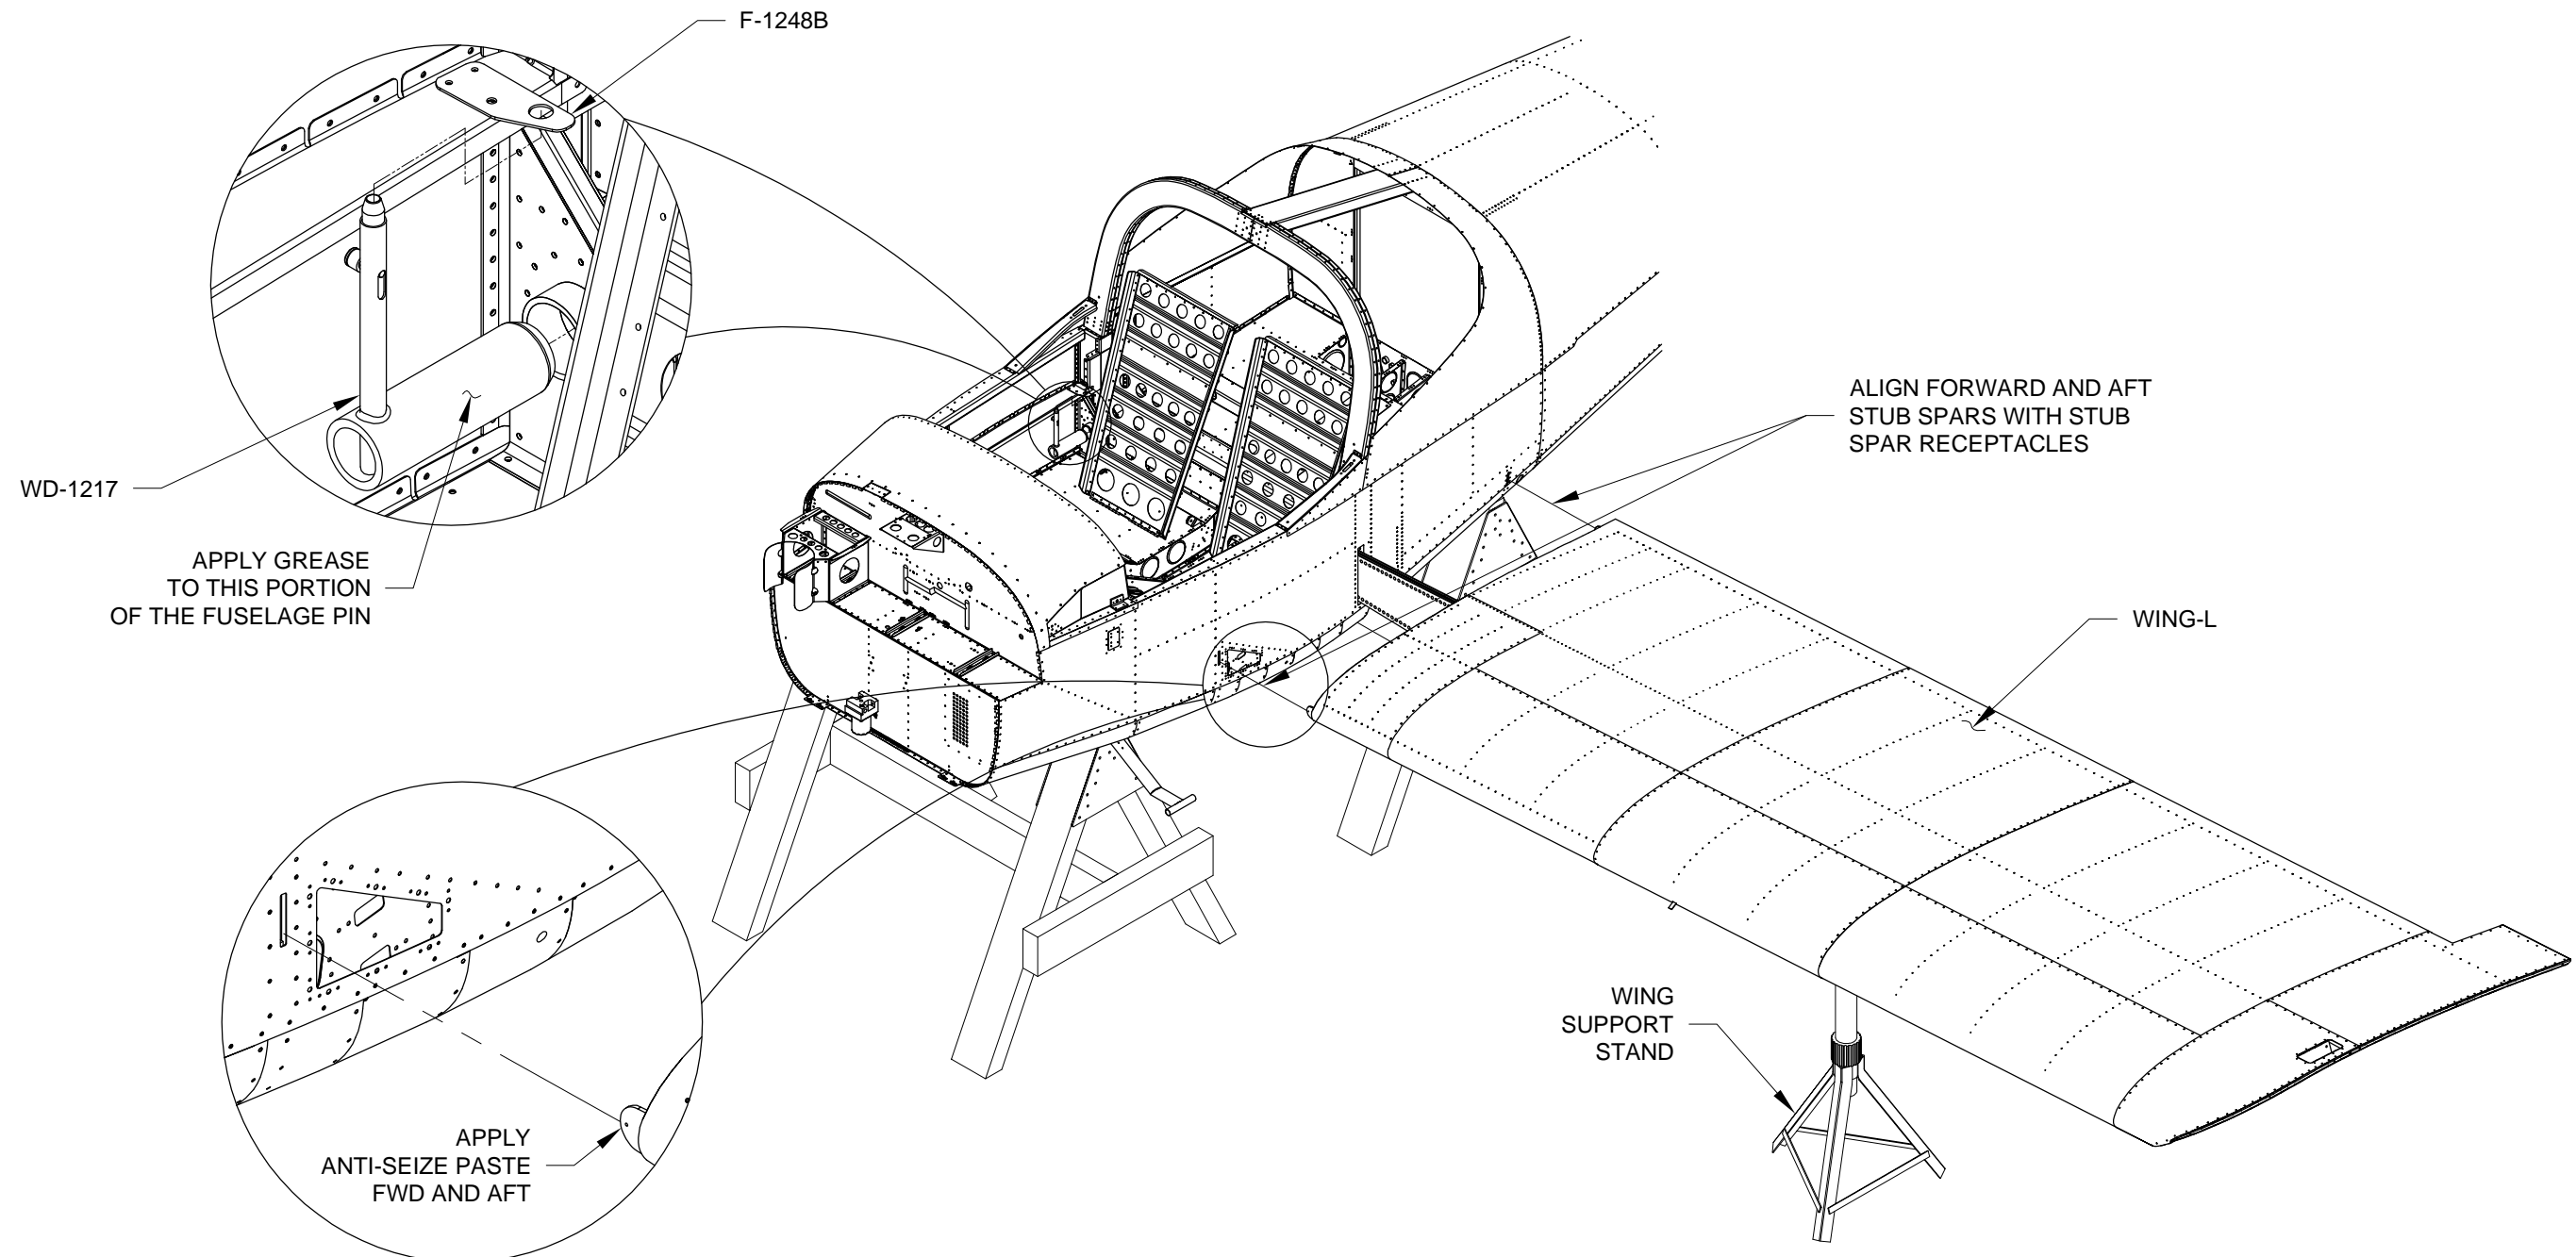

FIGURE 1: WING INSTALLATION (LEFT SHOWN)
Step 1: Align the stub spars in the forward and aft stub spar receptacles as shown in Figure 1. Apply a light coating of general purpose wheel bearing grease to the WD-1217 Fuselage Pins then insert through the bushings in the F-1204 Bulkhead Assembly and into the bushings in the left wing spar, but not protruding aft of the aft surface of the left spar. The fit will be snug. Turning the fuselage pin from side to side while applying pressure will make installation easier.
Step 2: Place the remaining support under the left wing as shown in Figure 1. Take care that the support is aligned with the wing ribs (not between them) to avoid denting the wing skins. The support may alternately be positioned under the optional eye bolt tie-down ring (eye bolts are not included in the kit, but are available from our accessories catalog and other sources).
Step 3: With one person on each end of the right wing, slide the right wing spar over the F-1204M Roller and under the F-1204R Retainer Block on the opposite side. See Page 30-02 Figure 5. Slide the WD-1217 Fuselage Pins through the bushings in both wing spars and latch to the F-1248B Fuselage Pin Latch with the retaining screws facing outboard. The retaining screws should be positioned outboard to prevent them from being depressed accidentally. See Figure 1.